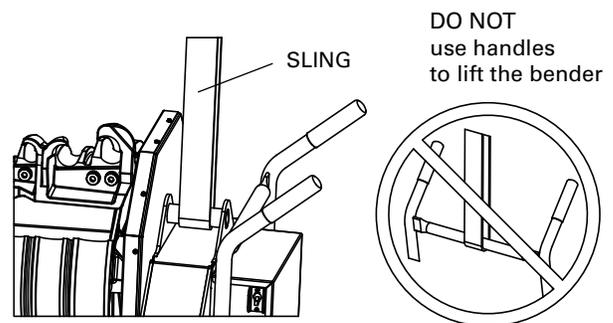

Figure 11b
2. Use a sling with a minimum lifting capacity of 2,000 lbs. around the lifting tube on the back side of the bender power unit (see Figure 11b) and lift. **DO NOT** use handles to lift the bender.